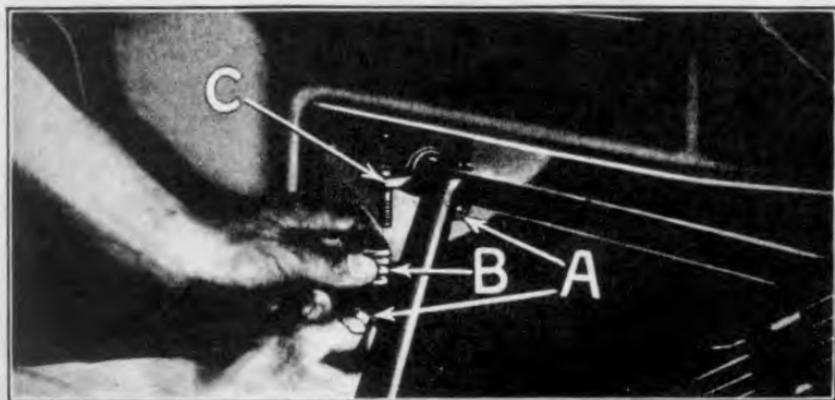

Fig. 37
- 37 **Remove radius rod ball cap and springs** by running off the two radius rod ball cap stud nuts (See "A" Fig. 37), and lifting off ball cap springs "B" and ball cap "C".